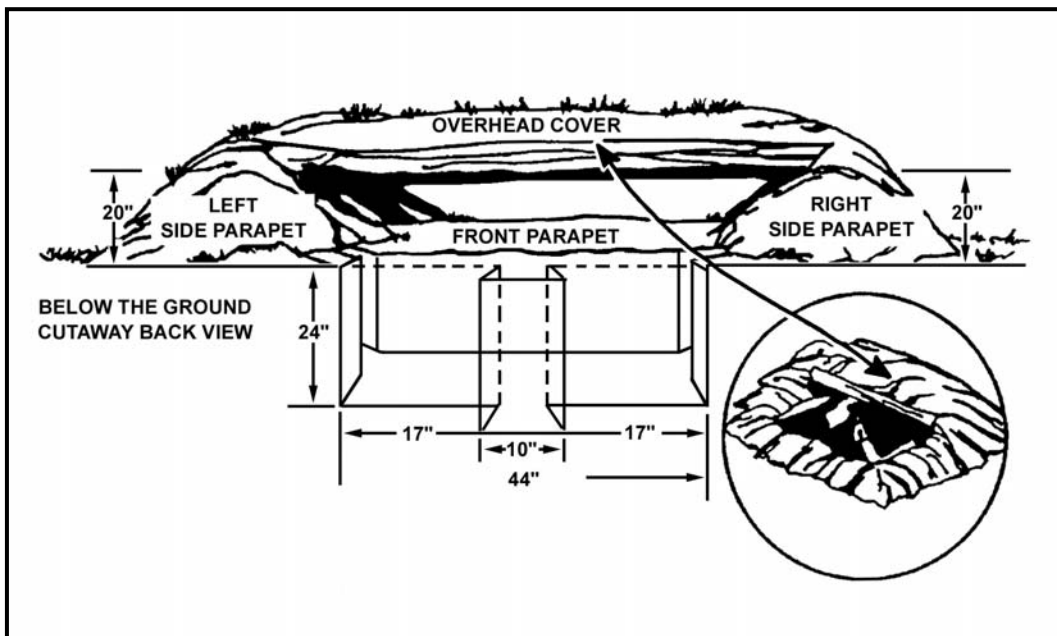

Figure C-2. Storage/protective area.
- (1) Make the position 24 inches deep.
- (2) Make the parapet at least 18 inches thick to keep out small-arms fire and artillery fragments. It should provide 9 inches of muzzle clearance under the launch tube.
- (3) Do not place dirt or equipment in the backblast area.
- (4) Scoop out a place for the MGS either under or to the front of the tripod.
- (5) Dig a storage/protective area for the crew and missiles to one flank at a 90-degree angle to the primary direction of fire. Use the strongest material available for the roof. Put canvas or plastic down before throwing dirt on the roof to keep the ceiling from leaking. Place at least 20 inches of dirt on top of the storage/protective area (Figure C-2).
- (6) Ensure the ground behind the TOW is free of leaves and dirt out to 25 meters so the backblast does not leave a signature.
- (7) Ensure all the standard principles of camouflage are followed. (For example, cover all fresh dirt with leaves and brush, replace withered foliage, always approach position from rear, and so forth.)